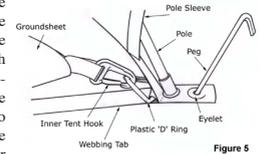
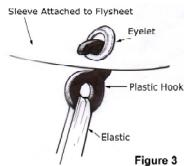

Figure 5
Figure 3
13. Gather up the inner tents, ensuring that their doors are closed, and take them inside the tent. The correct location for each inner is identified by the colour of the elastic of the uppermost hanging point on each bedroom as it matches a coloured tab that is next to the correct eyelet in the flysheet (see figure 3). Start at the rear edge of the inner and attach the hooks that are on the corners of its groundsheet to the "D" rings located on the main groundsheet (see figure 5).
14. Then, working systematically, using the hooks attach the inner to the eyelets located on a fabric tabs sewn to the inside of the flysheet (see figure 3).
The apron style groundsheet will clip to the "D" rings located at the base of the canopy poles. (See figure 5)